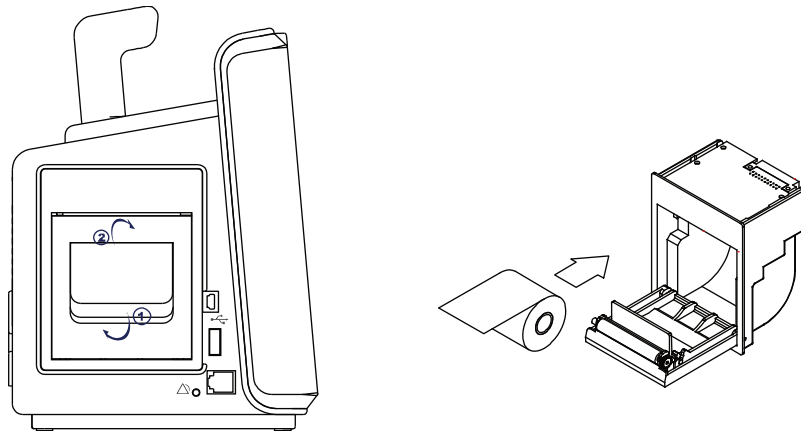

Figure 66. Printer Paper Replacement
3. Insert a new paper roll in the proper orientation (*see Figure 66*).